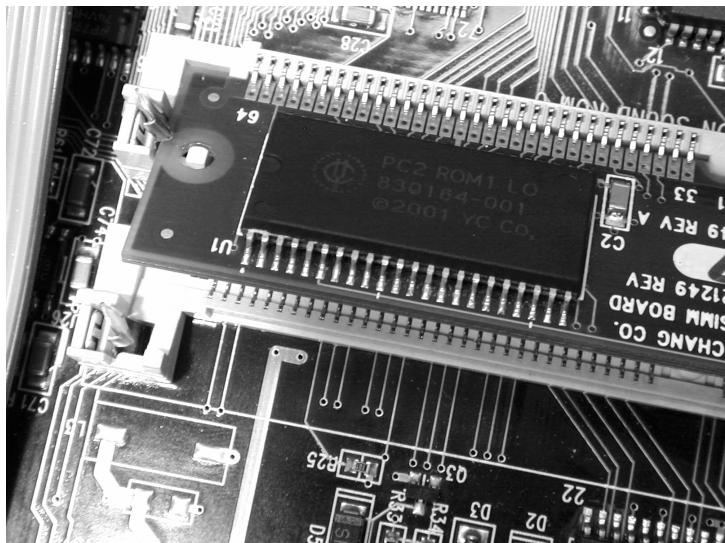

Figure 15 Option board properly installed on Engine Board
5. Figure 15 shows how the option board looks when it's installed properly on the Engine Board.